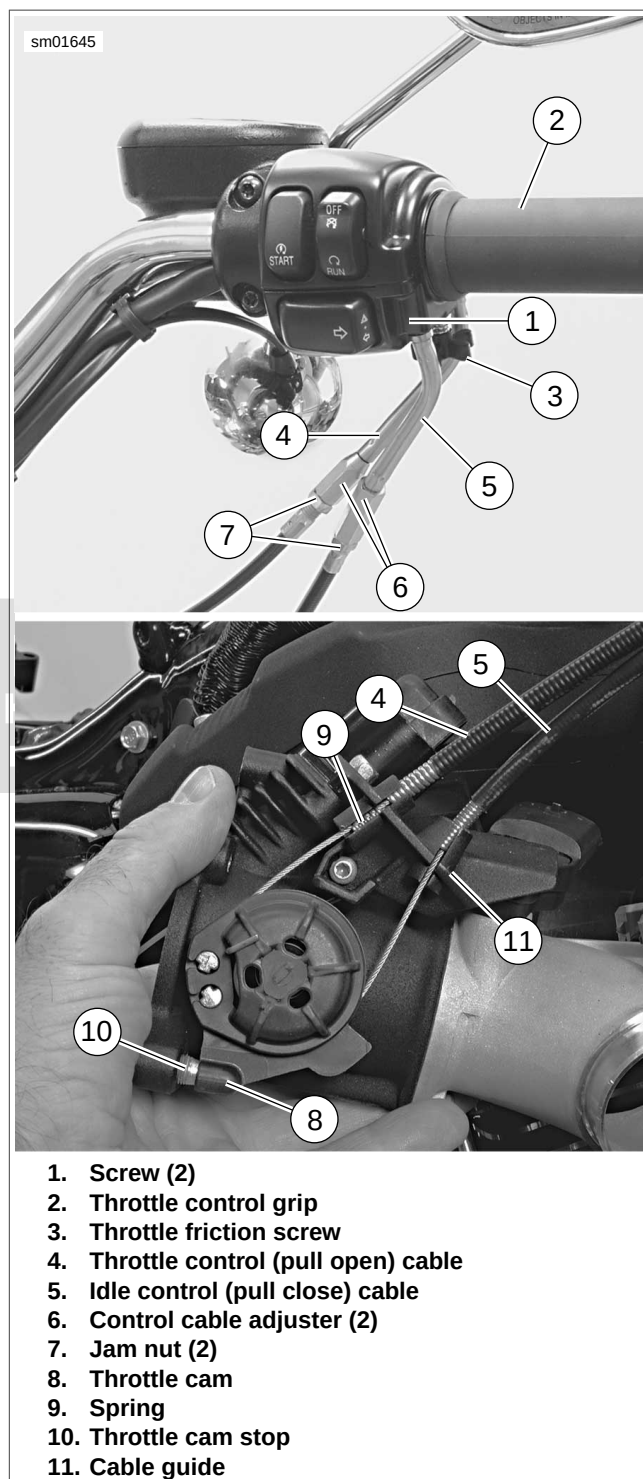

Figure 1-105. Throttle Cable Adjustment (typical; XL model shown) (Induction Module Partially Removed from Vehicle for Clarity)
1. See Figure 1-105. Remove two screws (1) to separate the upper handlebar housing from the lower housing.
7. Assemble handlebar housing. Tighten both screws (1) to 35-45 in-lbs (4.0-5.1 Nm).
See Figure 1-105. With throttle friction screw (3) backed off, induction module throttle wheel must return to closed (idle) position. Check control cable adjustment. With engine idling, turn handlebars through full range of travel. If engine speed changes during this maneuver, adjust control cables according to the following procedure.
1. Loosen throttle friction screw (3).
2. Slide rubber boot off each control cable adjuster (6).
3. Loosen jam nut (7) on each cable adjuster.
5. Point front wheel straight ahead. With engine OFF, gently turn throttle control grip (2) to fully open position (fully counterclockwise) and hold in position.
6. Gently turn adjuster (6) on throttle control cable (4) counterclockwise until throttle cam (8) touches throttle cam stop (10). Release throttle control grip and turn adjuster counterclockwise an additional 1/2-1 turn. Tighten jam nut on throttle control cable adjuster.
7. Turn handlebars fully to right. Turn adjuster (6) on idle control cable (5), lengthening sleeve until end of cable housing just touches spring (9) within cable guide (11).